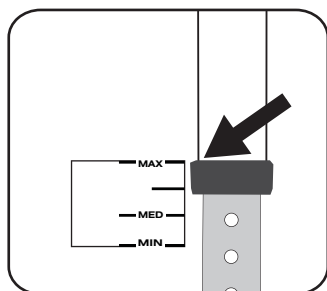

Figure 2: Downhaul until the desired calibration mark lines up with the bottom of the mast.
- 2) Downhaul your sail until the desired calibration mark lines up with the bottom of the mast (figure 2).